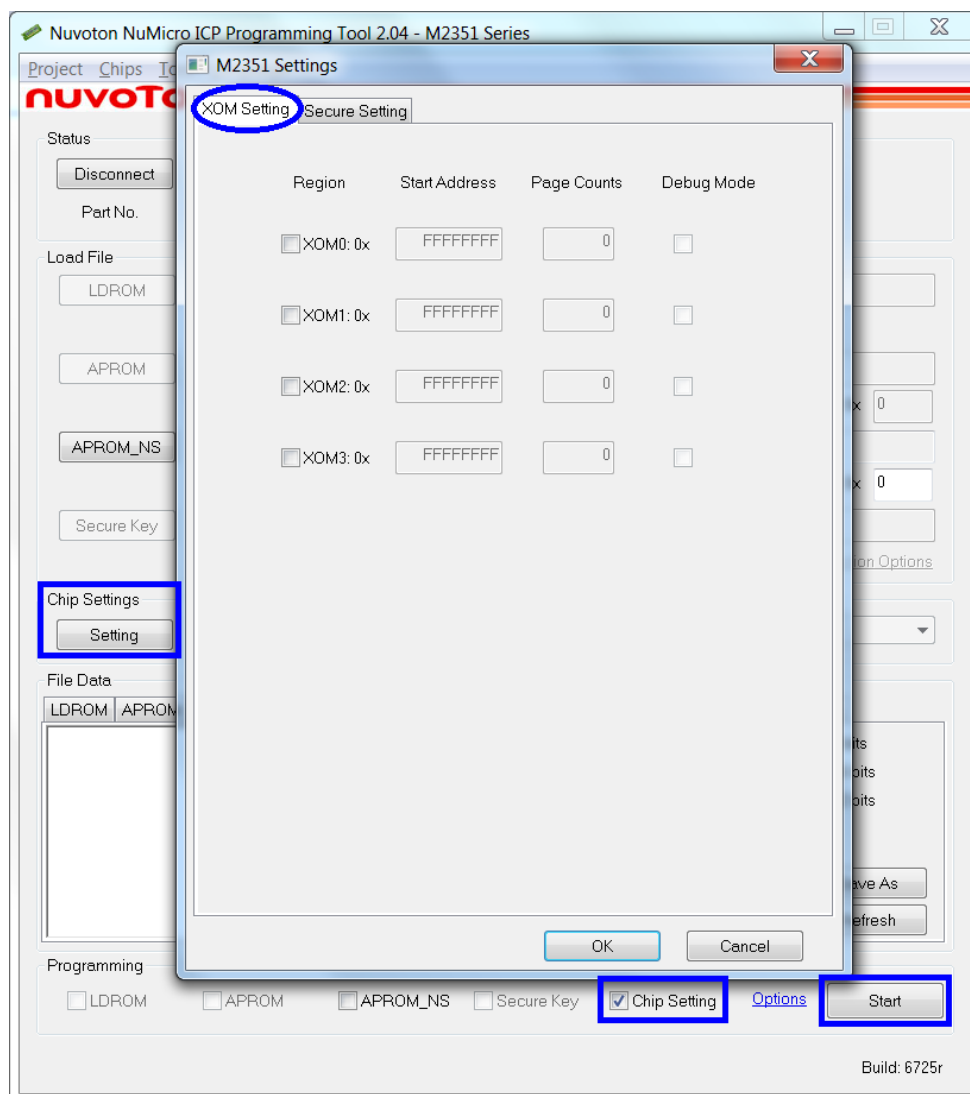

Figure 3-7 Configure XOM in ICP Programming Tool
1. Click [Setting] button under Chip Settings to open the XOM Setting page, as shown in Figure 3-7.